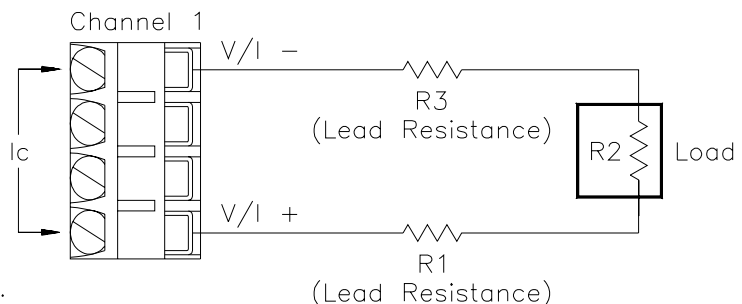

Figure 4-6. Output Current Compliance Voltage
3. Verify that the compliance voltage will not be exceeded by calculating the total circuit resistance using Figure 4-6.
Note The compliance current is 24 mA. The maximum short circuit current (e.g. $R_2 = 0$ in Figure 4-6) is limited to ≤ 30 mA by the HP E1328A.